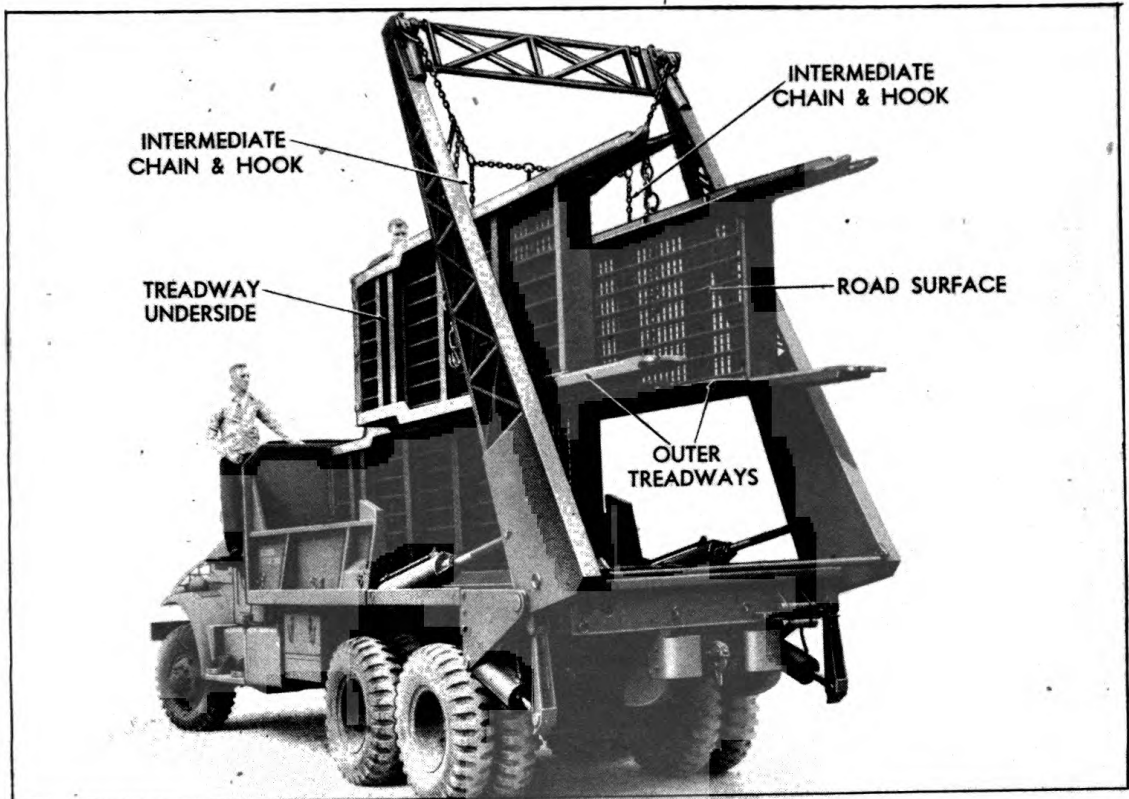
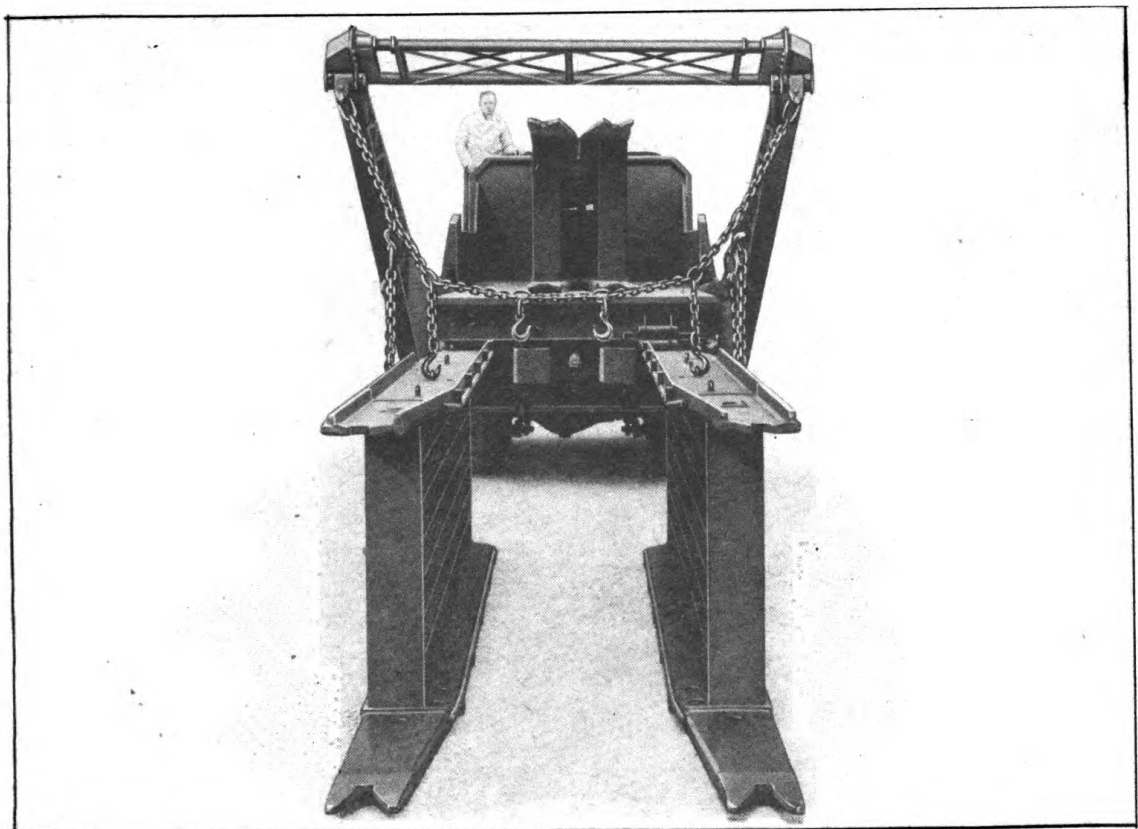
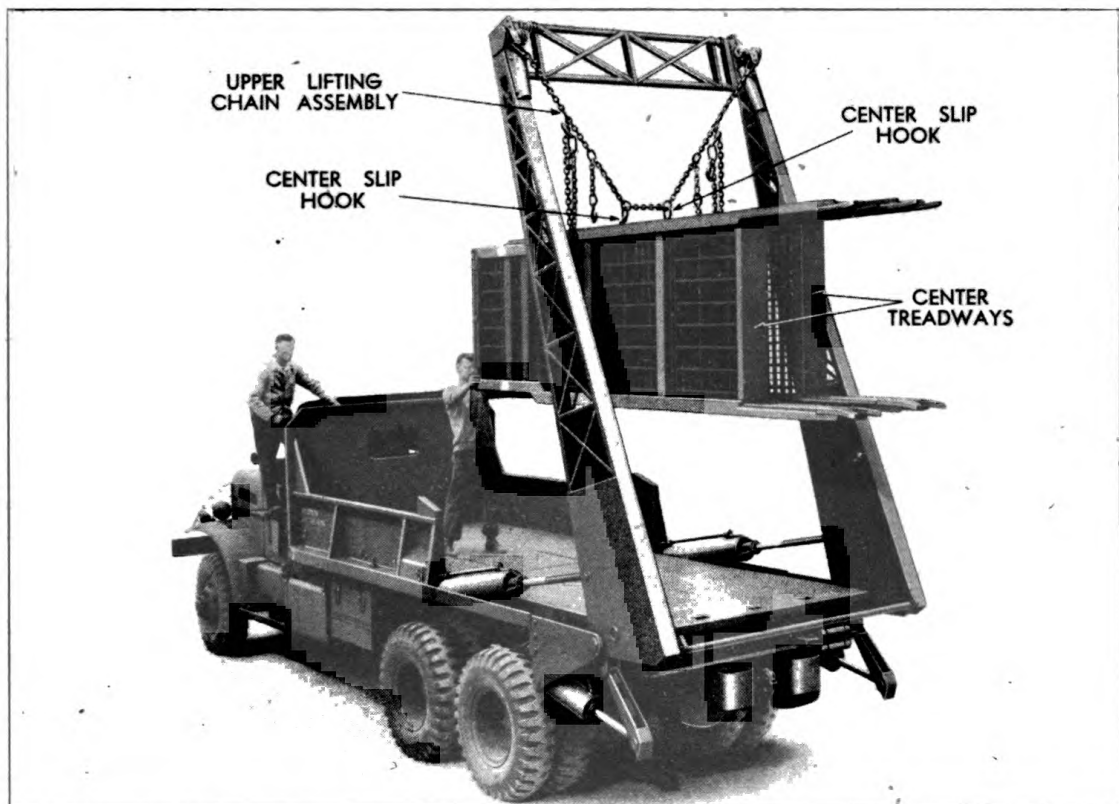

Figure 18. Unloading Two Outer Treadways First. Road Surfaces to Inside
Figure 19. Method of Attaching Slip Hooks to Treadway Eyes for Unloading
Figure 20. Removing Two Center Treadways with Center Slip Hooks
(1) The treadways should be loaded and unloaded two at a time. Unload the outer two treadways first, with the road surfaces toward each other as shown in Figure 18. Use the slip hooks on the intermediate length chain of the upper cross chain assembly. Insert a slip hook in the center eye located on the side surface of each treadway as shown in Figure 19.
(2) The inner two treadways are removed from the truck by using the two center slip hooks on the upper cross chain assembly. See Figure 20. The slip hooks are inserted in the center eye on the side of each treadway.
(2) The first two treadways to be loaded should be moved to the extreme center in two operations as follows. First, attach the intermediate slip hooks to the center eyes after the treadways are standing on edge. Raise the boom and they will swing to the center. Secondly, attach the center slip hooks to the eyes and raise the treadways into place on the truck, Figure 20.
(3) Handle the second pair of treadways as in step (1) above, but load them into the truck when the intermediate slip hooks are attached. See Figure 18. Al-raise the treadways into place on the truck, Figure 20.